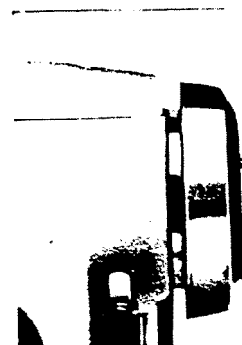

Fig. 39
- C. Remove plastic cover (C) Fig. 39. with screw driver being careful not to break it.
- D. Remove spring stop (D) Fig. 39.
- E. Move hand wheel away from machine to form a gap through which the belt will pass Fig. 39.
- H. Move hand wheel back to its original position and replace spring (D), plastic cover (C) and rear cover.